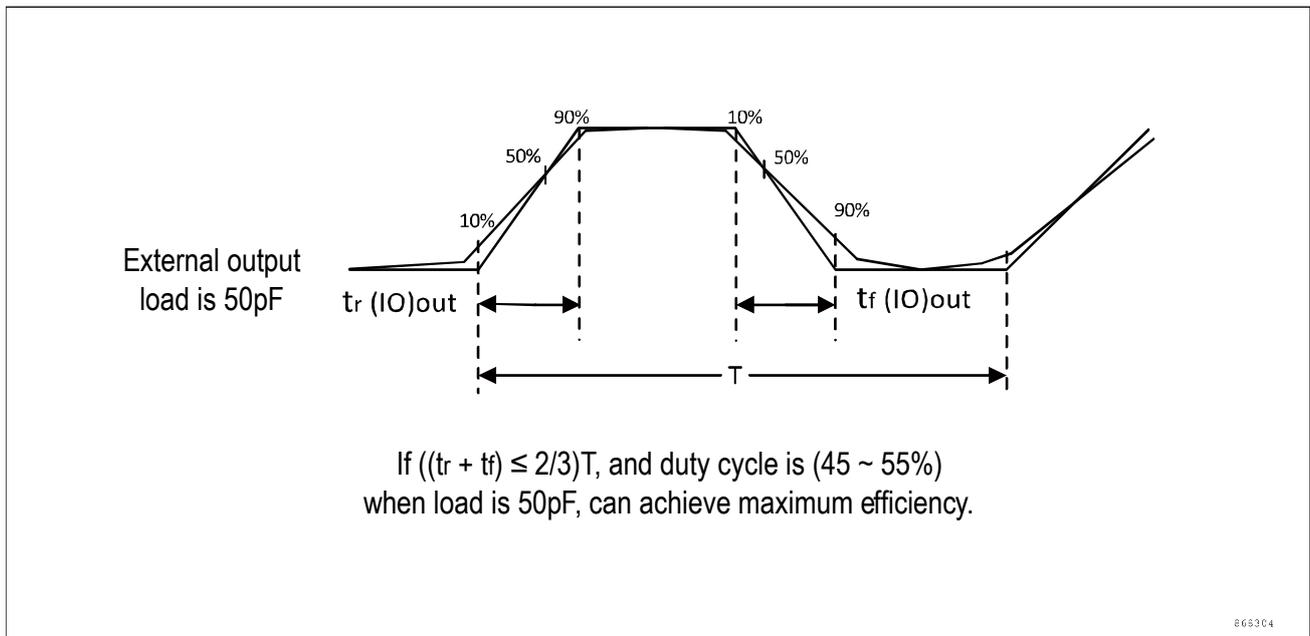

Figure 5-10 I/O AC characteristics
2. The maximum frequency is defined in Figure 5-10.